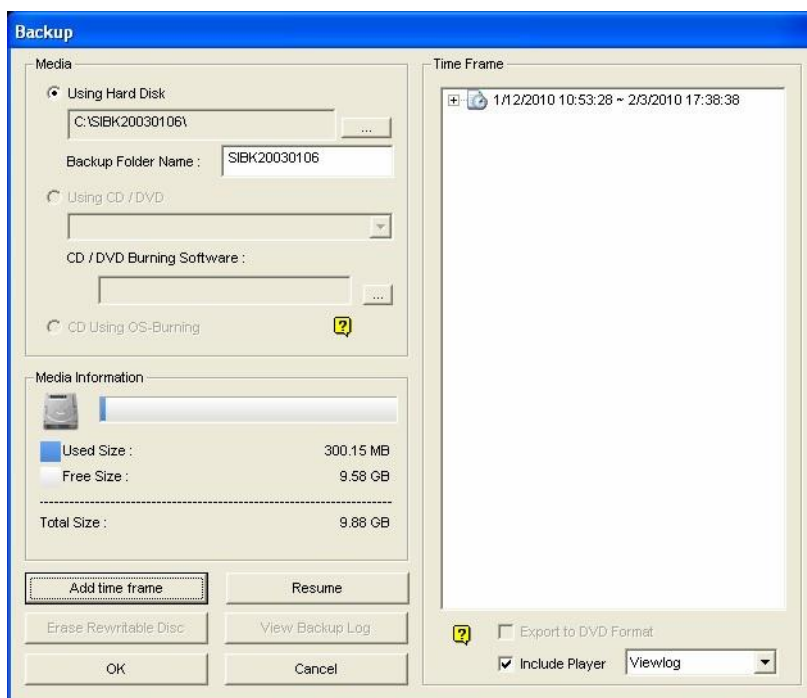

Figure 5-2
5. Click **OK**. The Backup dialog box (Figure 5-2) appears.
- ⑩ **Using Hard Disk:** Click to back up files to the hard disk you select. Click the [...] button to select the desired hard disk.
- ⑩ **Backup Folder Name:** Enter a desired name for the backup folder.
- ⑩ **Using CD/DVD:** Click to back up files to the CD or DVD media using the third-party software.
- ☑ Click the [...] button to assign the desired burning software (.exe file). When you click **OK** on the Backup dialog box (Figure 5-2), the system will ask you to paste the backup files to the CDR-Writer program, and call up the assigned burning software for you to paste and backup files.
2. The **Export to DVD Format** option, at the right bottom of the Backup dialog box (Figure 5-2), outputs your files in DVD movie format, meaning that it will play in any DVD player that supports writable DVD disks. To enable this option, MPEG2 files recorded by the GV-2004 Card / GV-2008 Card need to be selected first (see the Select Camera(s) option), and a DVD±RW disk is required as well.